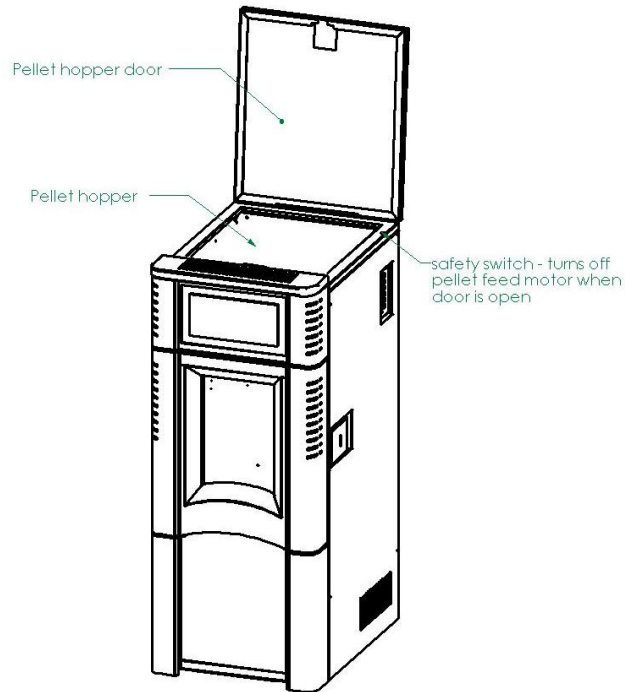

FIGURE 9
2. Locate thermostat terminal at the bottom rear of the stove (see **FIGURE 9**).
6. Open hopper lid and REMOVE all manuals and materials shipped with stove. Open front door and remove contents. Fill hopper with pellets. The Tiburon will hold approximately 50 pounds of pellets. The hopper lid must be closed before operating the unit. The feed motor will not work if the hopper lid is open. Open front door and remove contents. Make certain firepot is seated flush and must sit even in the fire pot holder. Air leakage around the fire pot will create a poor burn. (See **FIGURE 9**)